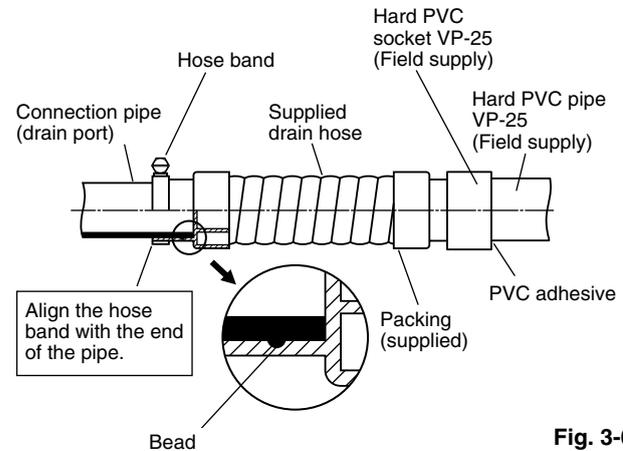

Fig. 3-6
- (1) Prepare a standard hard PVC pipe (O.D. 32 mm) for the drain and use the supplied drain hose and hose band to prevent water leaks. The PVC pipe must be purchased separately. The unit's transparent drain port allows you to check drainage. (Fig. 3-6)
Insert the drain pipe until it contacts the socket as shown in Fig. 3-6, then secure it tightly with the hose band.
- Align the hose bands with the end of the hose. Tighten the hose band firmly. Make sure that the bead is not covered by the hose band. (Fig. 3-6)
Tighten the hose clamps so their locking nuts face upward. (Fig. 3-6)